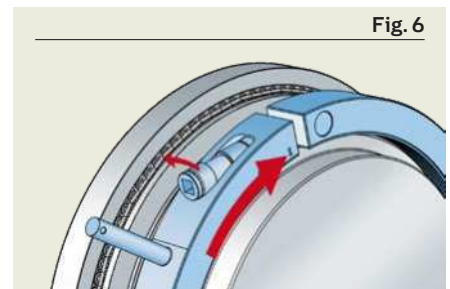

Fig. 6
- 4 Using the mounting handle, screw the lock nut onto the shaft thread by hand until it abuts the component that it is to locate (**fig. 6**).